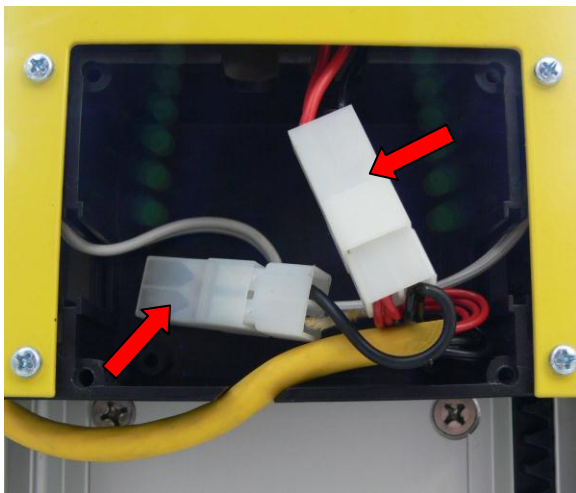

Figure 4 – Unplug wiring
6. Remove the four screws from the black cover on the **CommandLIFT™** Motor Unit and unplug the two LED light wiring harnesses in the Motor Unit (see Figure 4, below).
2. Plug in the two wiring harnesses that are located in the plastic box on the motor unit (refer to figure 4 on the previous page).